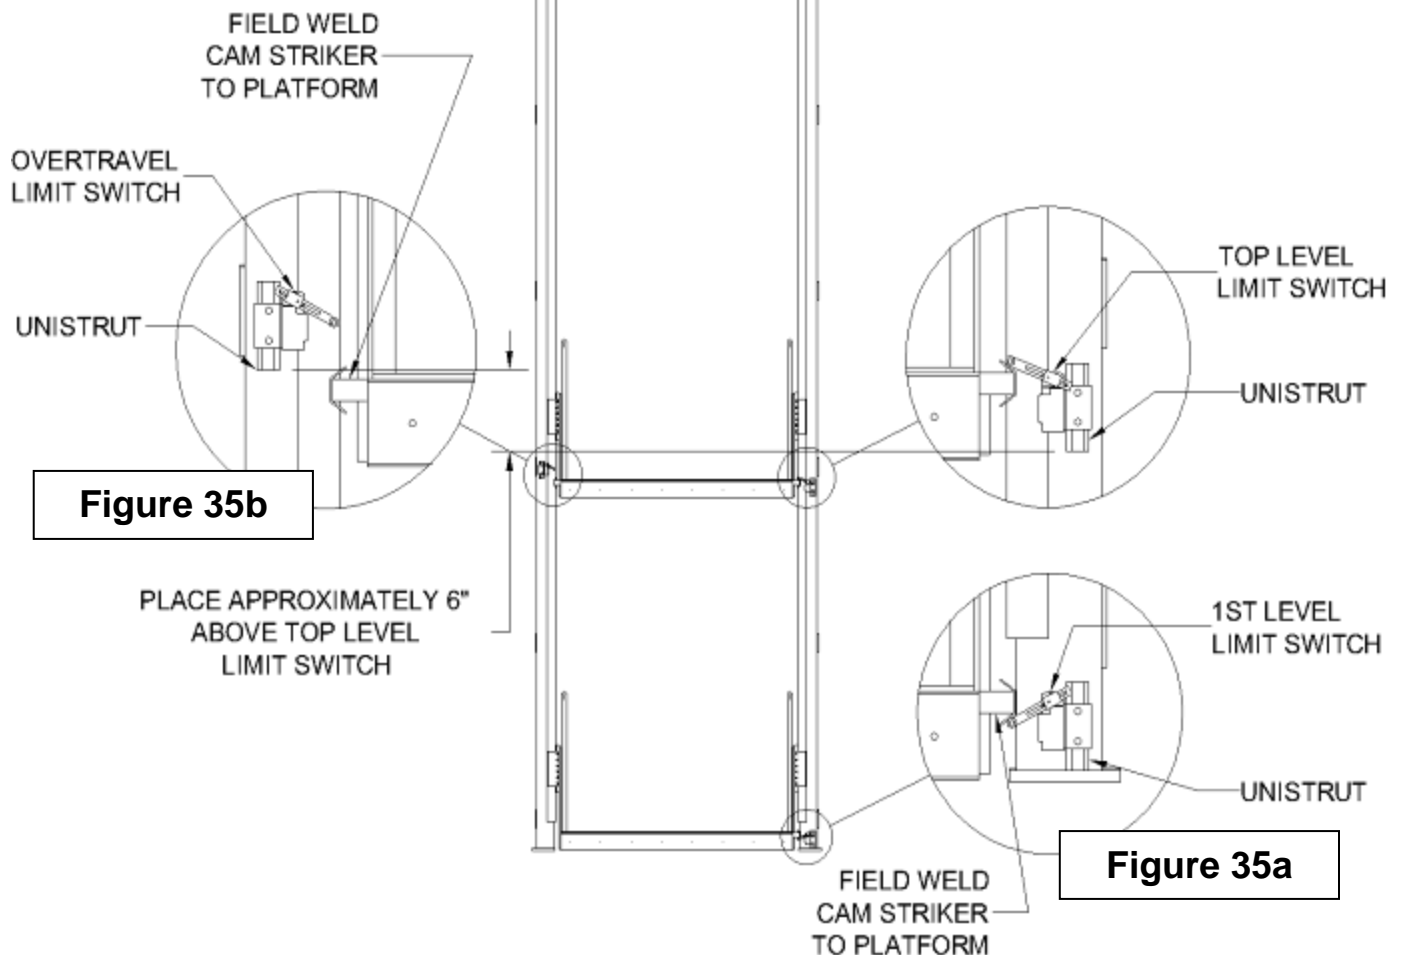

Figure 35 Carriage Status Switch Locations
K. INSTALLING LEVEL/OVER-TRAVEL LIMIT SWITCHES (Ref. Figures 35 and 36)